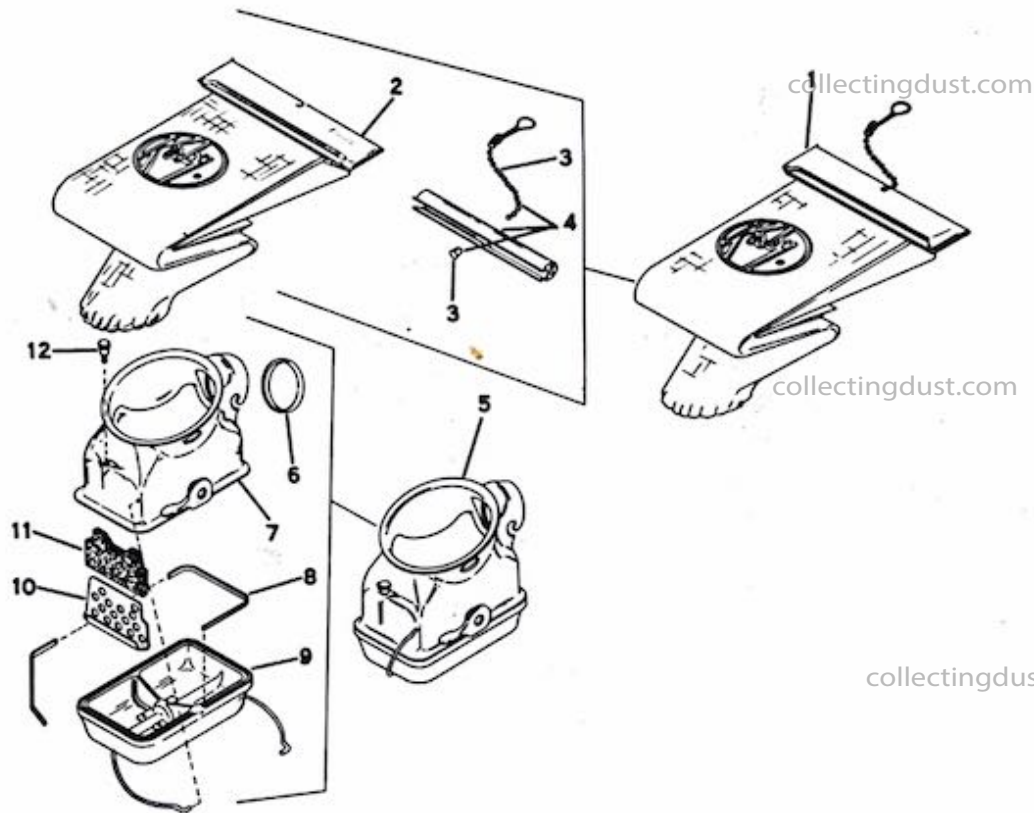

Figure 4-1. Emtor Group, exploded view (Models (505/561))
- b. Hold the emtor securely and start one edge of the bag elastic over the emtor flange and remove the bag from the emtor upper casting (7, fig. 4-1).
- c. Roll the top edge of the bag flap over the bag clamp (4).
- e. To replace the chain and loop (3), press the chain end through the clamp and disengage the chain from the chain end. To install the chain and loop, put the chain through the top of the clamp (4); engage the chain with the chain end and pull the chain end securely into the hole of the clamp.
- f. Make sure that the bag is folded so center folds meet; slide the assembled bag clamp and chain on the bag (2).
- (1) Release the tray clamp; disengage the ends of the tray support from the emtor upper casting and remove the bottom plastic tray (9 fig. 4-1).
- (2) If only the felt gasket (8) is worn, pull it from the groove of the plastic tray (9).
(1) Remove the emtor gasket (6, fig. 4-1) from the upper casting (7).